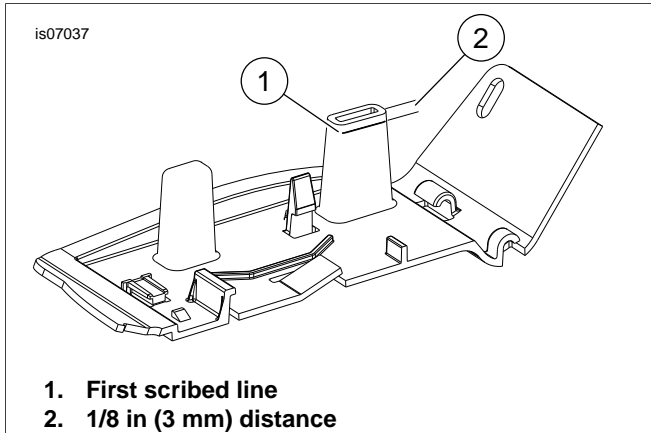

Figure 2. Cut Top of Tower
- f. See Figure 2. Measure from the first line (1), and mark or scribe a second line (2) 0.12 in (3 mm) above the first line.